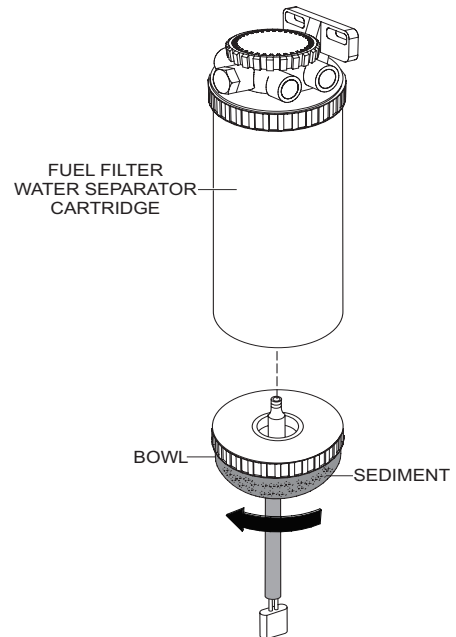

Figure 69. Sediment Bowl
1. Remove the sediment bowl from the fuel water separator cartridge as shown in Figure 69.